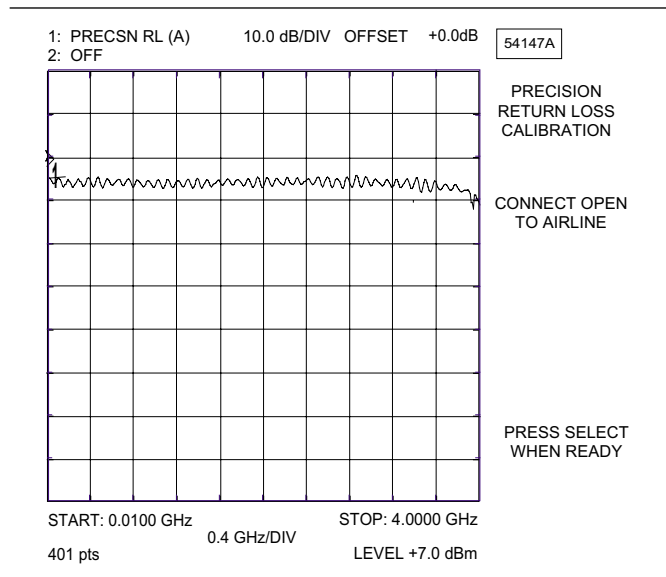

Figure 4. Example of a Good Connection
17. Verify that the display resembles that shown in Figure 4.